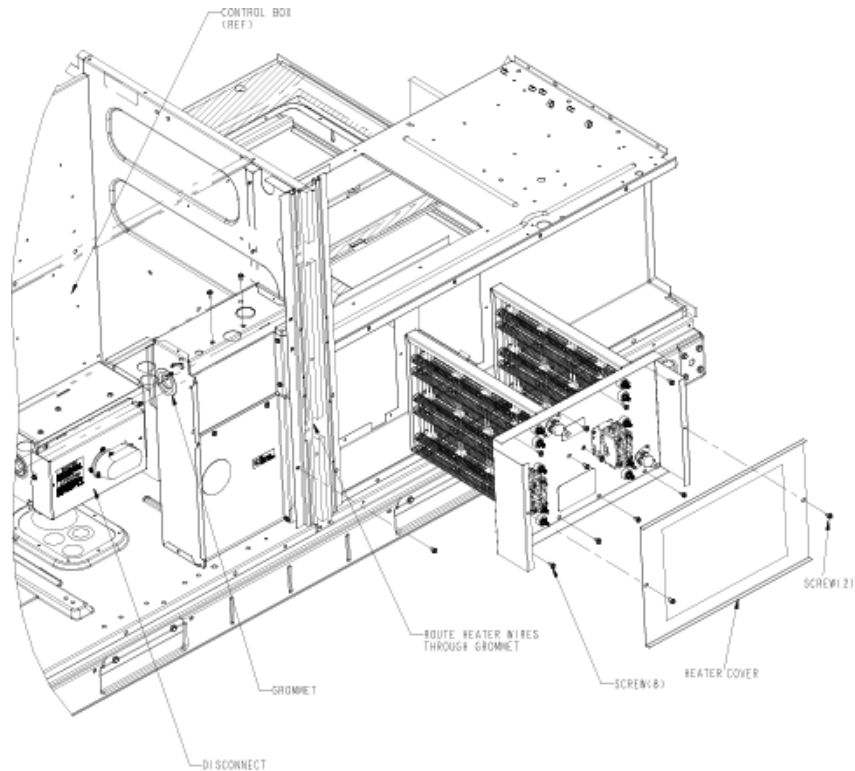

Fig. 17 - Installing CRHEATER301A00
- b. Heater CRHEATER301A00 only: To install module, insert both heater frames into location notches in heater bracket opening in unit and slide heater through the opening. Fasten heater module to heater mounting bracket with the 4 screws saved from Step 1. (See Fig. 17.)